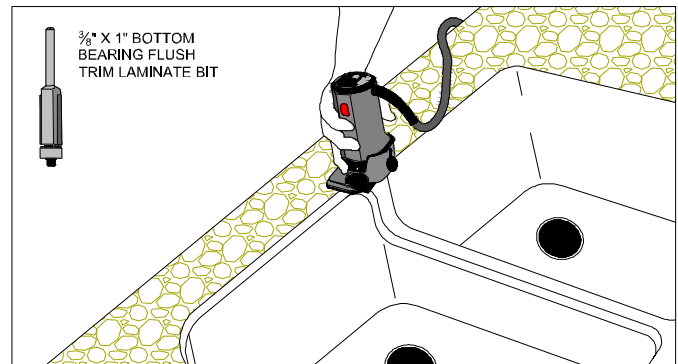

Figure 8A
- Adjust the laminate tilt-base trim router with a $\frac{3}{8}$ " bottom bearing flush trim bit. (FIG. 8A)
- Route around the inside of the sink. (FIG. 8A)